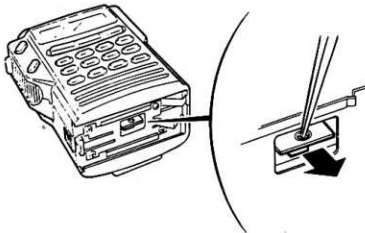

Figure 4-8
- b) Unplug the memory unit (CMU160) which is already installed. Insert the tip of a pair of tweezers or similar instrument into the hole in the memory unit (CMU160) and pull it out. (As shown in Figure 4-8)